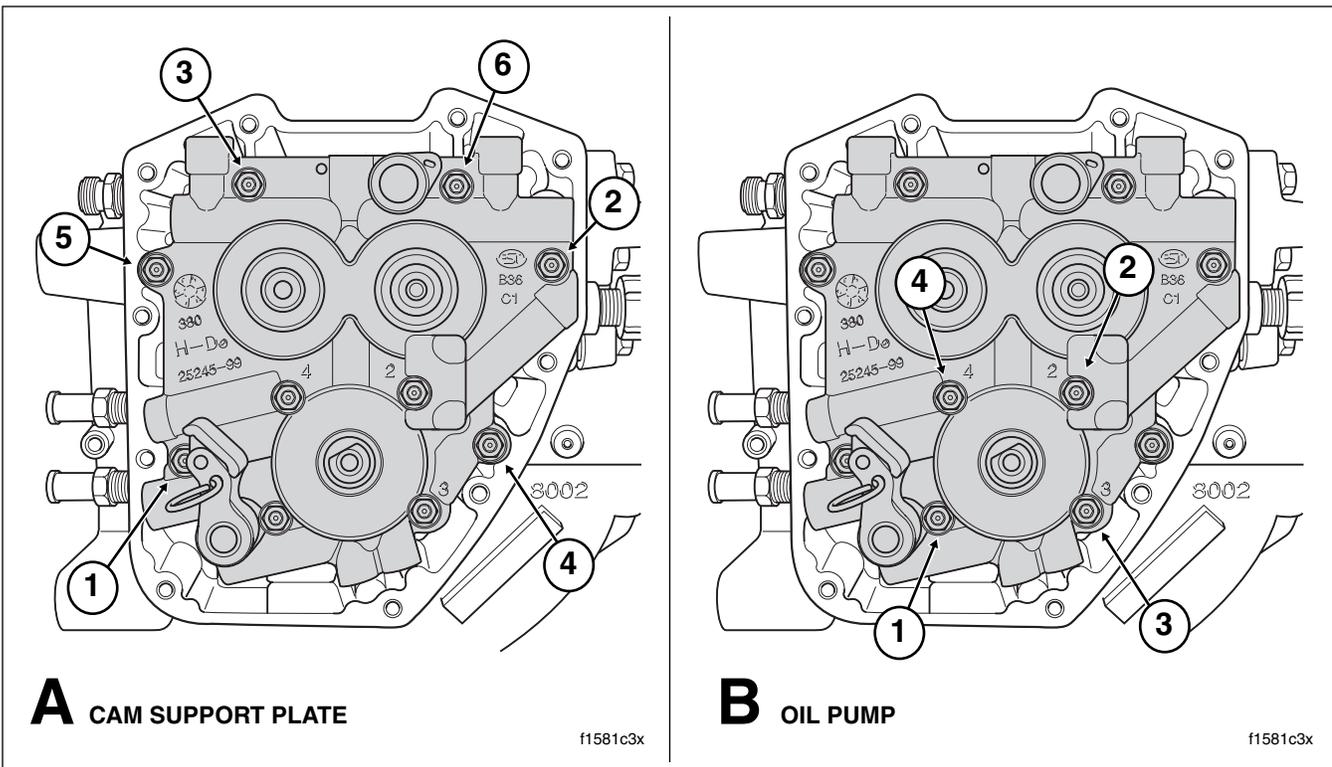

**Figure 3-49. Verify Alignment of Timing Lines on Front and Rear Camshafts**
15. Using a straightedge, verify that the pin stamped timing lines on the ends of the front and rear camshafts are in alignment (although they may be somewhat difficult to see). See Figure 3-49. If necessary, rotate camshafts in order to make this observation.